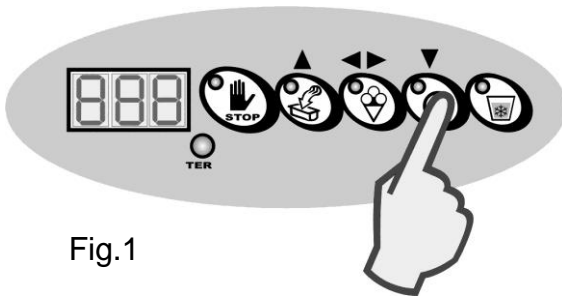

Fig.1
- With the cycle in progress, press the SEMI-AUTOMATIC TIME CYCLE key (fig. 1).